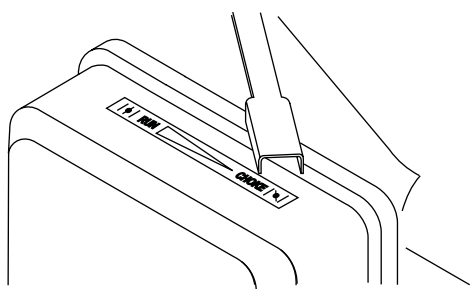

Figure 8 — Choke Lever
3. Push choke lever to “Choke” position (Figure 8).